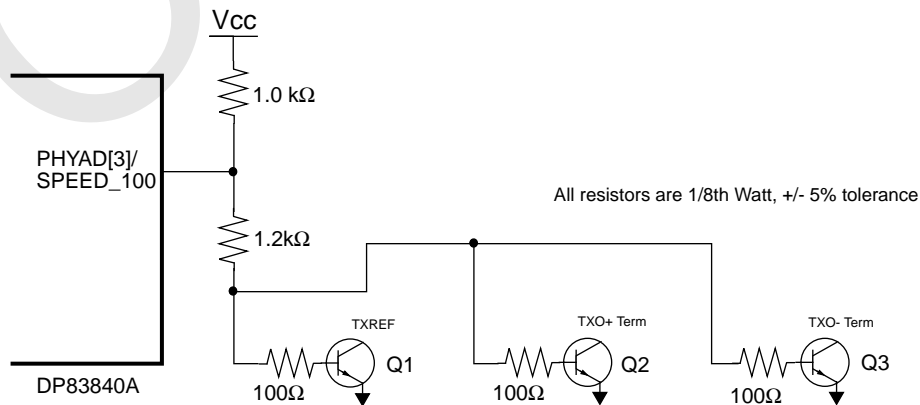

Figure 24. Recommended Control Circuitry and Valid PHYAD[3] Logic High Latch-in Value
1.2kΩ resistor with respect to proper transistor biasing. Figure 24 illustrates the recommended connection of external circuitry when using PHYAD[3] / SPEED\_100 to control transistors used for Common Magnetics implementations.